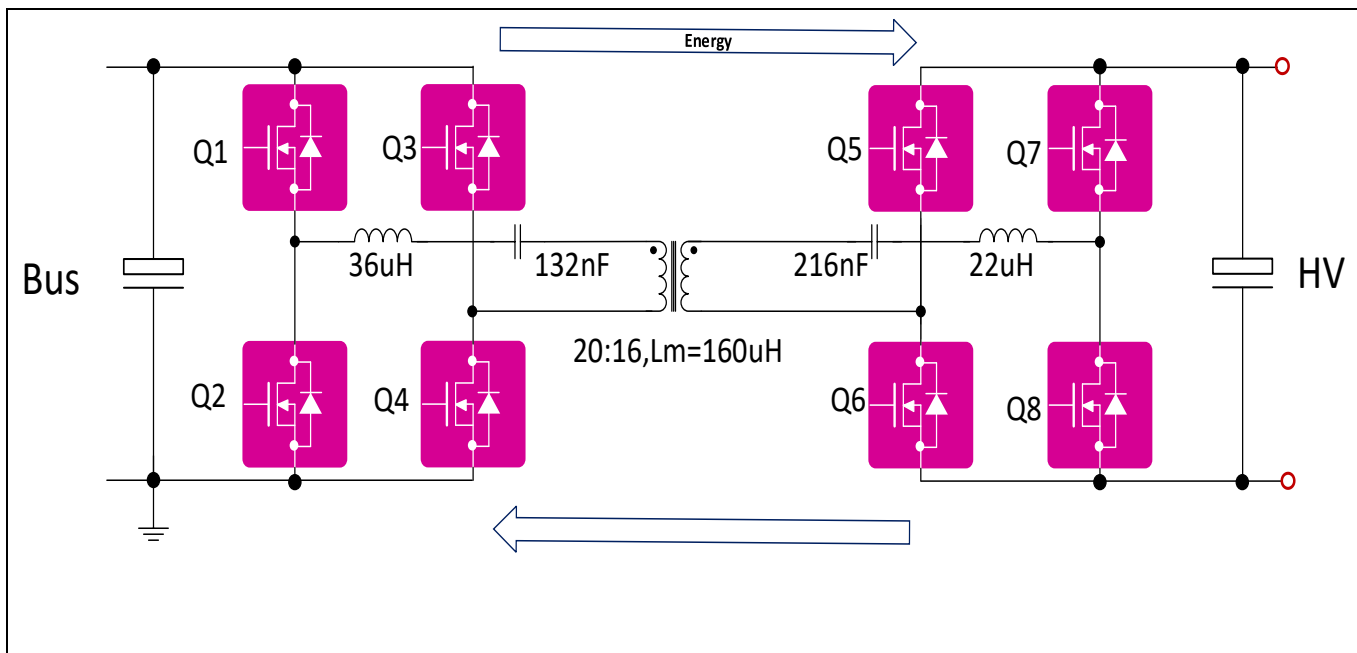

Figure 4 Buck mode recommended validation set-up
- HV electronic load (500 V to 800 V), in constant current mode, capable of at least 11 kW (when testing up to full load). Nominal input voltage of the converter is 750 V. The converter works as indicated in Figure 4.
The output gain function of CLLC topology is generally analyzed by the fundamental wave-analysis method. Based on this analysis method, the parameters of the key resonant components in the current design are shown in the Figure 4:
VHB is the V_{ds} voltage of Q2 (The position of SiC MOSFETs Q1~Q8 can be seen in Figure 4.).